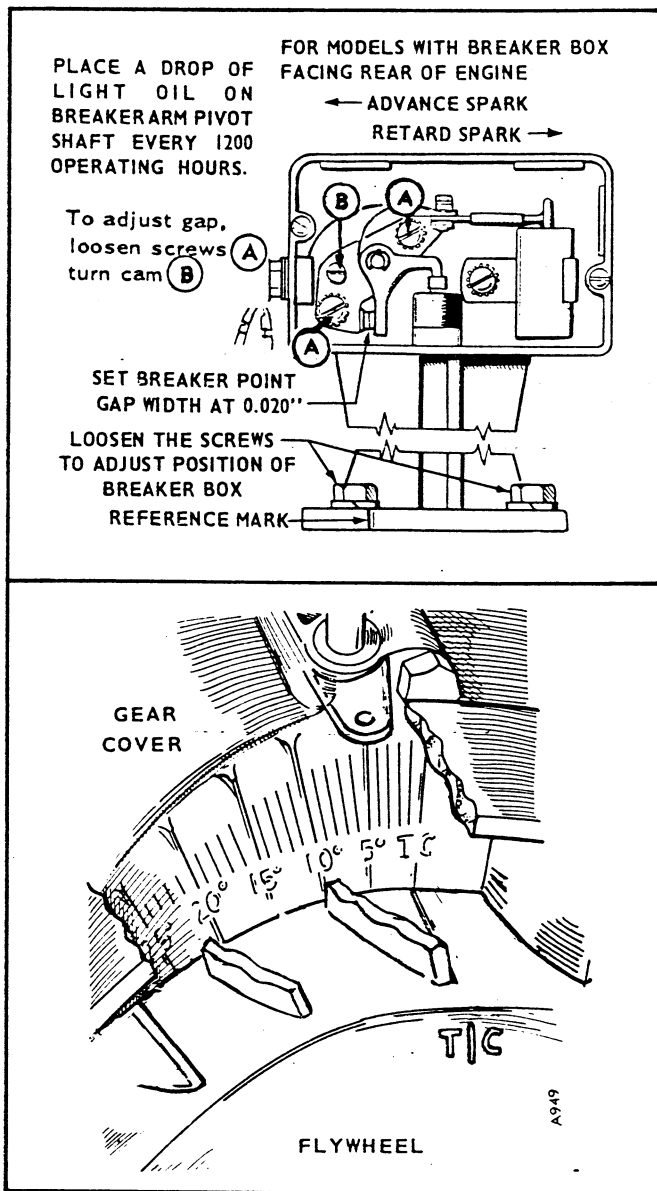

FIGURE 25. IGNITION & TIMING ADJUSTMENTS
(Figure 25).
6. Tighten all screws, replace timing plug, breaker box cover (Figure 25) and any other hardware removed. --